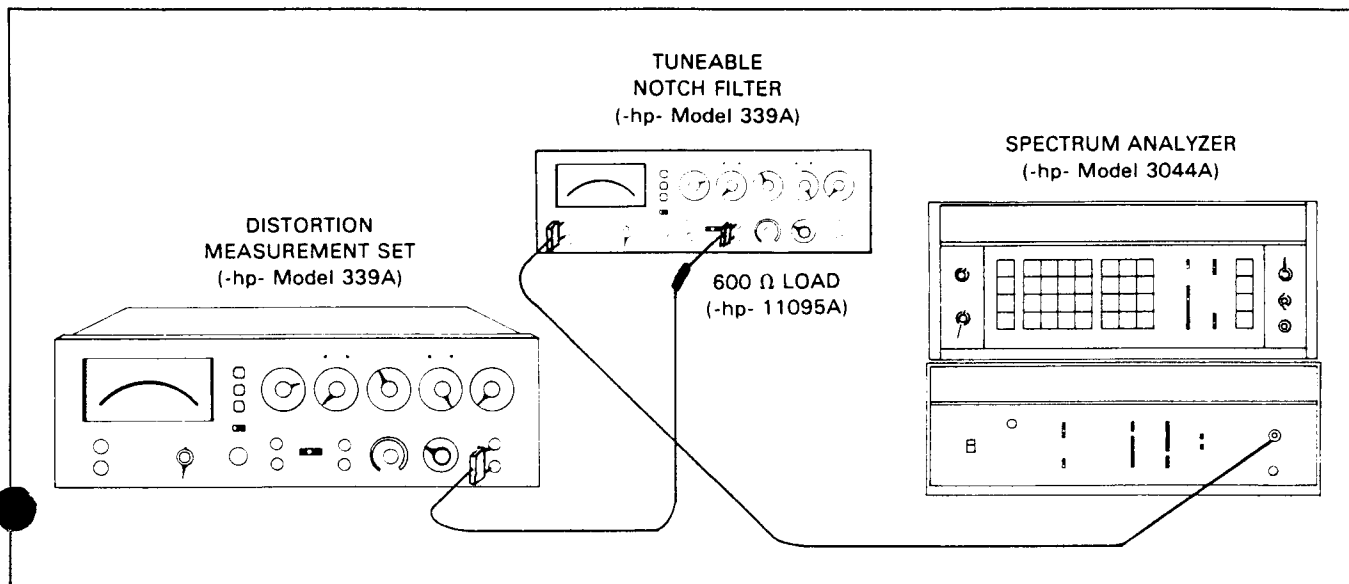

Figure 4-8. Oscillator Total Harmonic Distortion Test.
- b. Connect the equipment as shown in Figure 4-8.